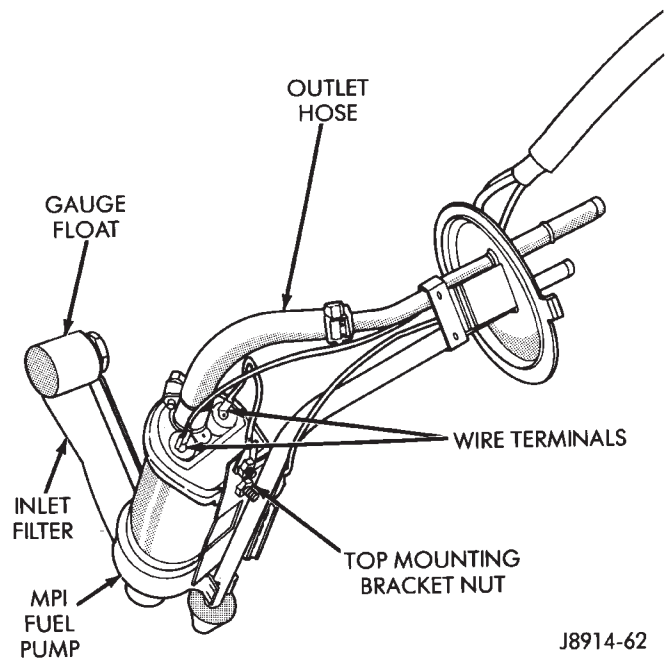

Fig. 2 Fuel Pump Module—XJ Models—Disassemble/Assemble
(2) Disconnect fuel pump terminal wires.
(3) Remove fuel pump outlet hose and clamp. Replace the hose if it shows any signs of fatigue or failure.
(4) Remove fuel pump top mounting bracket nut. Remove fuel pump (Fig. 2).